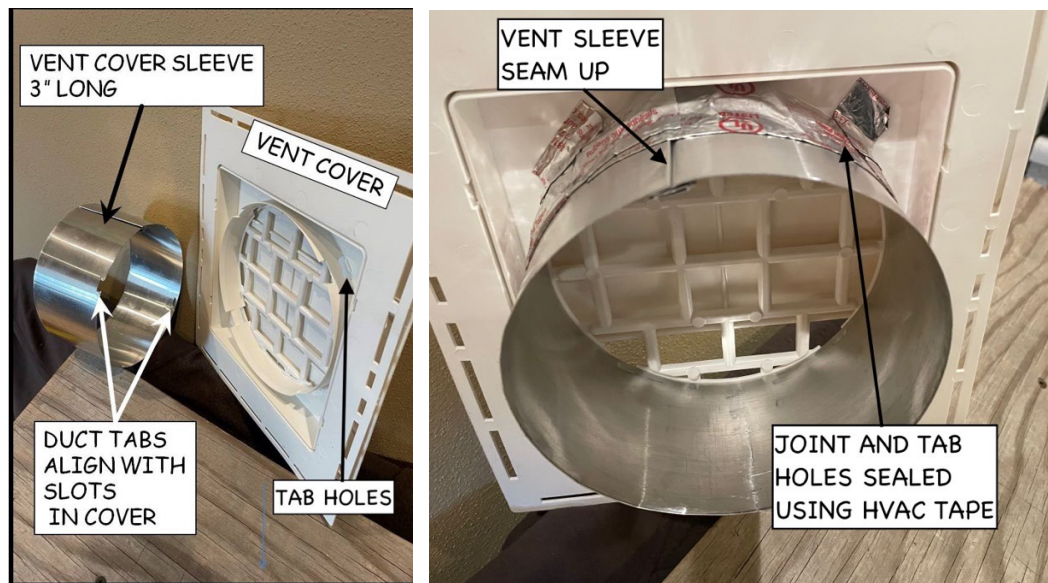

Figure 10-2 – Range Vent Cover Sleeve Assembly
3. Insert the tabbed end of the vent cover sleeve into the vent cover. Ensure the seam in the vent cover sleeve is positioned towards the top of the vent cover, so that it will eventually be installed on the top side of the horizontally-positioned sleeve. Cut three 4" length strips of HVAC tape and then cut these in half lengthwise. Use five of these strips to cover the circumference of the sleeve-cover connection with $\frac{1}{2}$ " overlap. Cover the four tab holes with the remaining piece of tape, cut into four pieces, or fill with caulk (see Figure 10-2 as an example).
7. Insert the tabbed end of the vent cover sleeve into the vent cover. Ensure the seam in the vent cover sleeve is positioned towards the top of the vent cover, so that it will eventually be installed on the top side of the horizontally-positioned sleeve. Cut three 4" length strips of HVAC tape and then cut these in half lengthwise. Use five of these strips to cover the circumference of the sleeve-cover connection with $\frac{1}{2}$ " overlap. Cover the four tab holes with the remaining piece of tape, cut into four pieces, or fill with caulk (see Figure 10-2).